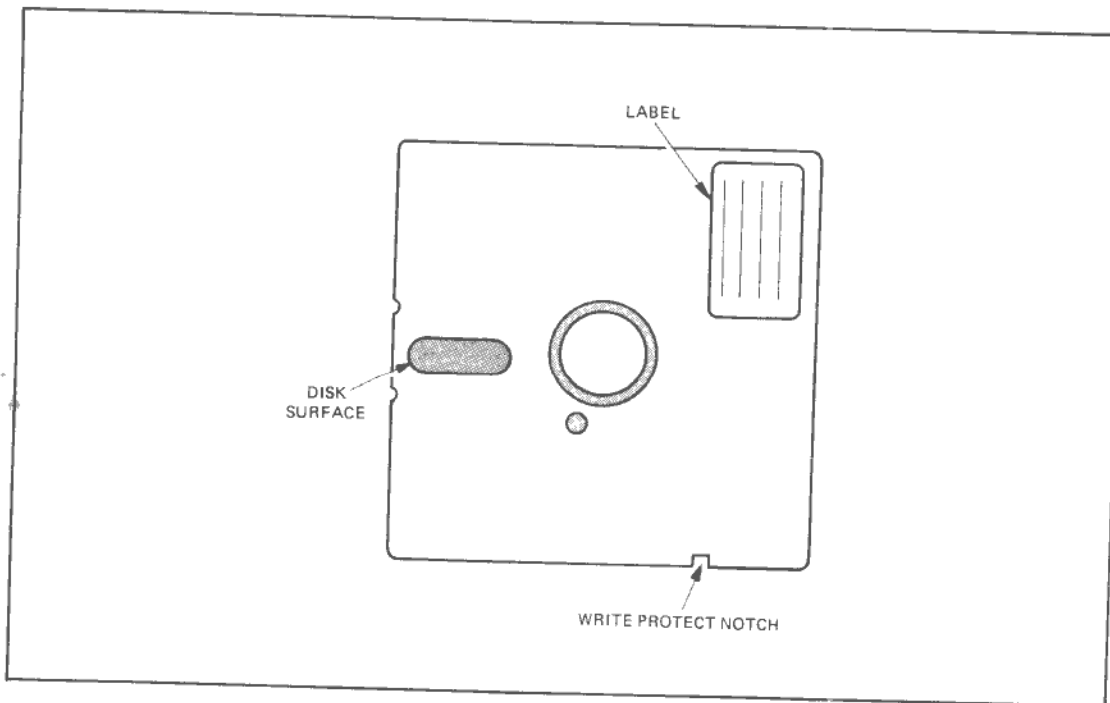

Figure 3-33. TP 420 Micro Disk
3. Insert the TP 420 micro disk with the disk label on the left hand side, and the disk write protect notch at the bottom, facing downwards. (Refer to figure 3-33)